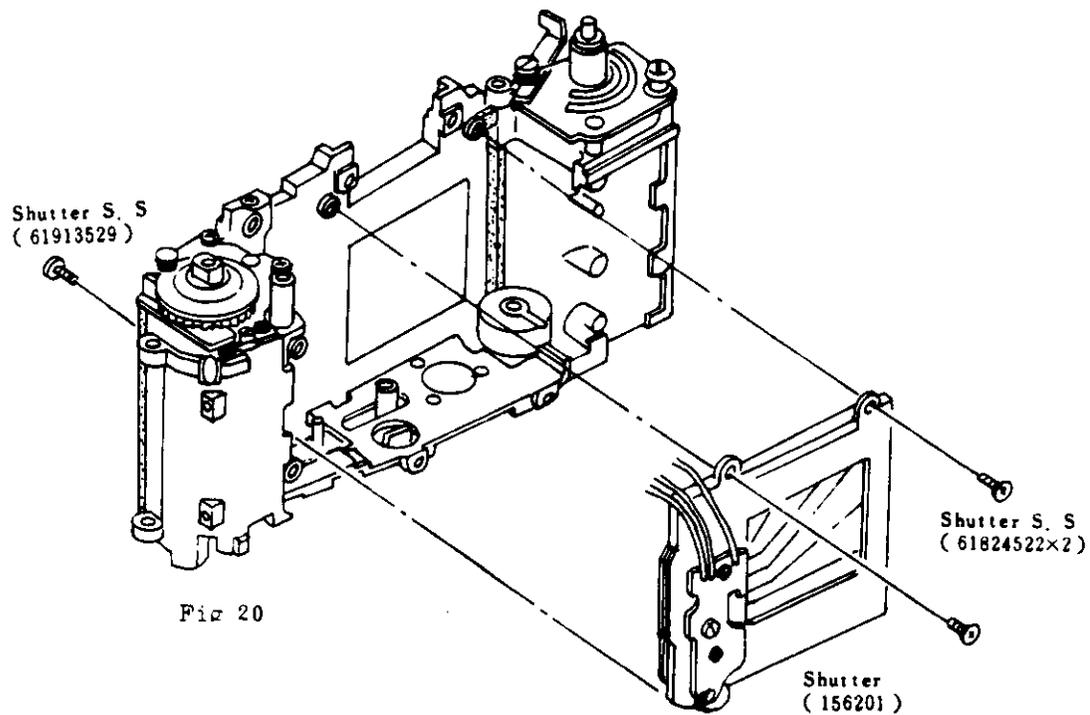

Fig 20
(2) Shutter Curtain Travel Speed.
(3) Manual Shutter Speed.
- a) The shutter speed (1/1000 sec.) can be adjusted by turning the Trigger Switch Adjusting Screw. (Fig 20)